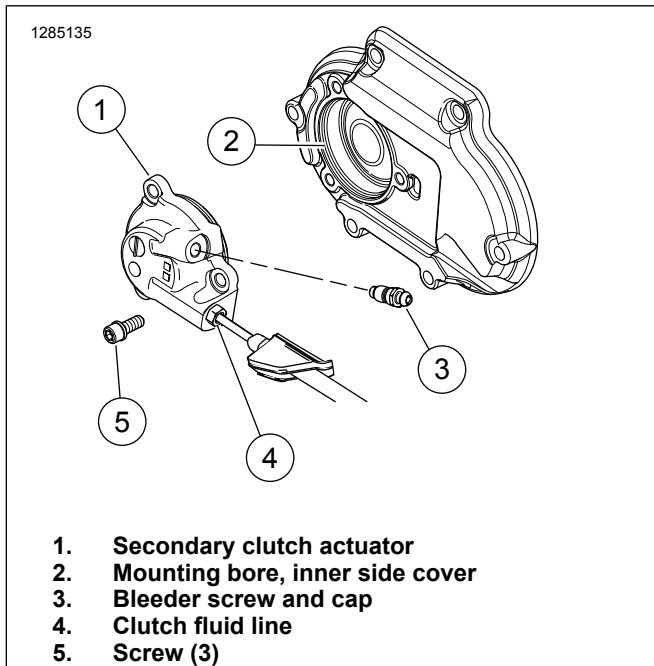
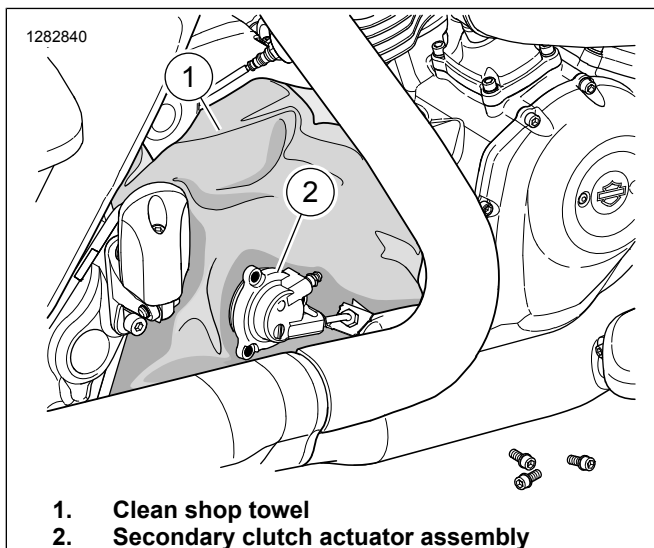
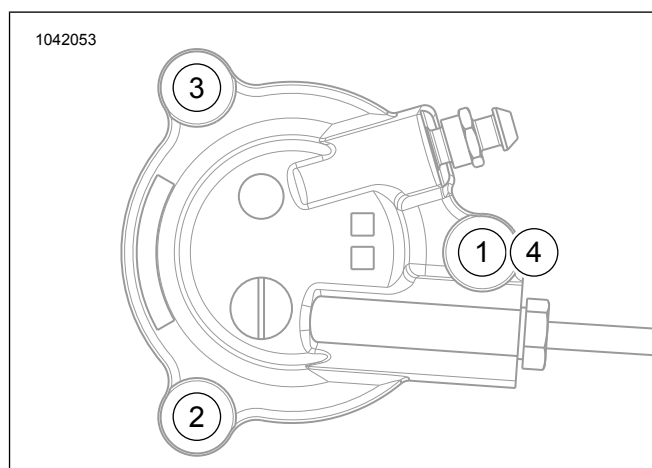

Figure 1. Secondary Clutch Actuator
Figure 2. Towel In-Place on Transmission
Figure 6. Secondary Clutch Actuator Torque Sequence
- **Do not disconnect clutch fluid line (4).**
2. See Figure 1. Remove secondary clutch actuator (1) from inner side cover mounting bore (2).
- a. Remove screws (5) and secondary clutch actuator.
3. See Figure 2. Place **clean** lint free shop towel over transmission inner side cover at secondary actuator bore.
2. See Figure 1. Install secondary clutch actuator (1).
- a. Lubricate mounting bore (2) in the inner side cover with a film of transmission fluid.
- b. Install secondary clutch actuator (1) and screws (5).
- c. See Figure 6. Draw screws down evenly to prevent binding and possible breakage of mounting ears. Tighten in sequence as shown.